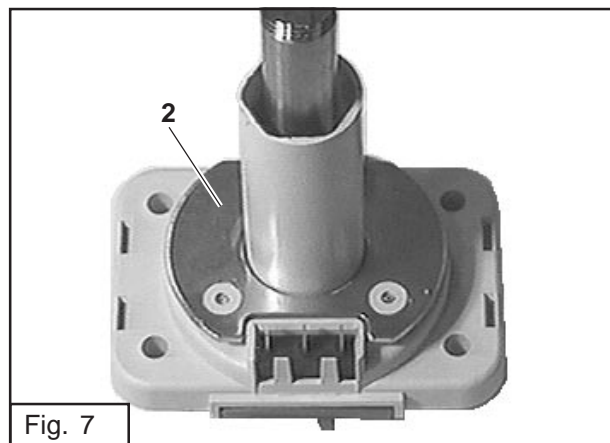

Fig. 7
- Remove the plate (2) from the bottom console. (Fig. 7)